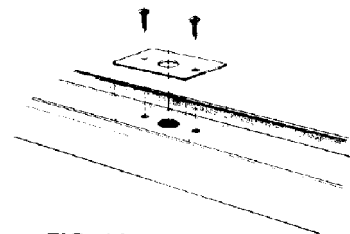

FIG. 14.
C. Locate the shoot bolt location plates over the 13mm diameter holes and fix in position as detailed in FIG. 14 using No.8 x 3/8" countersunk, self-tapping screws. Adjust as necessary to ensure the door closes firmly against the seals.